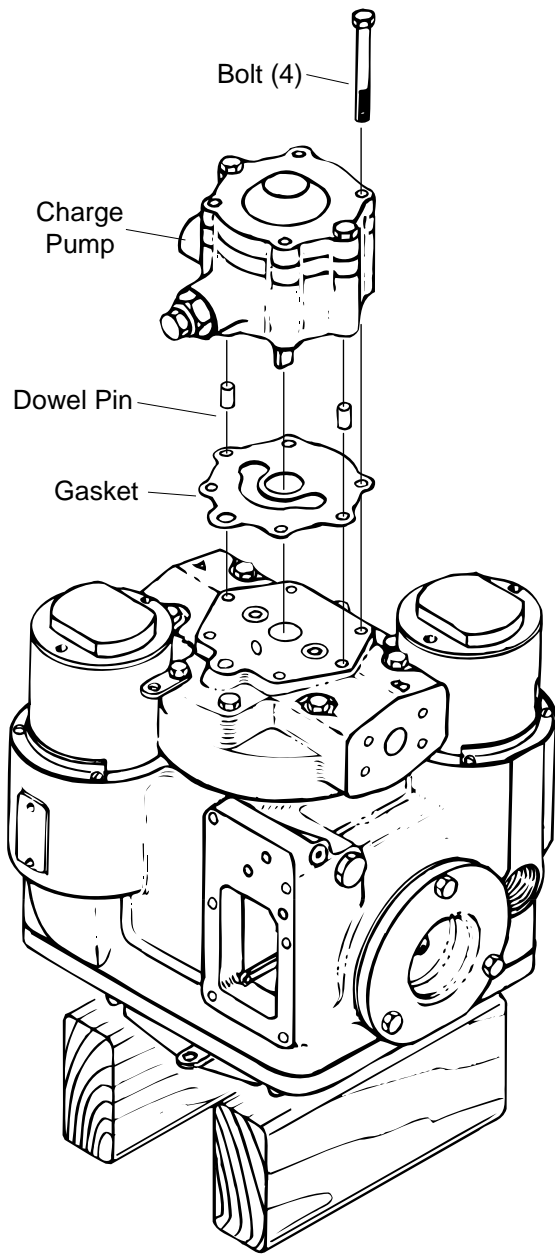

Figure 28
**95** Install the two remaining dowel pins in the holes in the end cover, see figure 28.